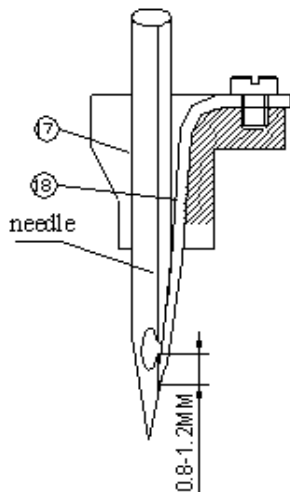

FIG.11
The height of the tip of the tongue (18) should be set in relation to the needle. The height is correct when the tip of the tongue closes the space between the two hooks of the needle, extending 0.8-1.2 mm (depending on the gauge of the needle) beyond the tip of the lower hook, and the bar is at its U.D.C. FIG. 11.